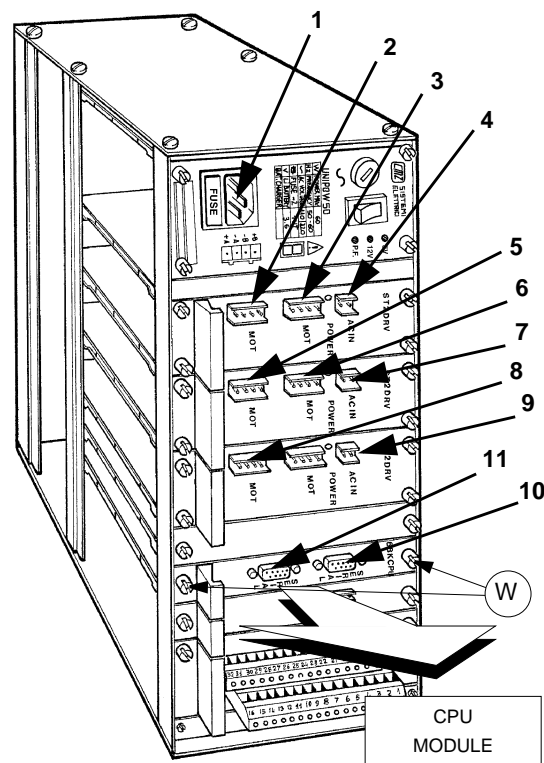

Fig. 39
- 5) loosen the two screws (**W**) securing the module (it is not necessary to remove them) (fig. 39).